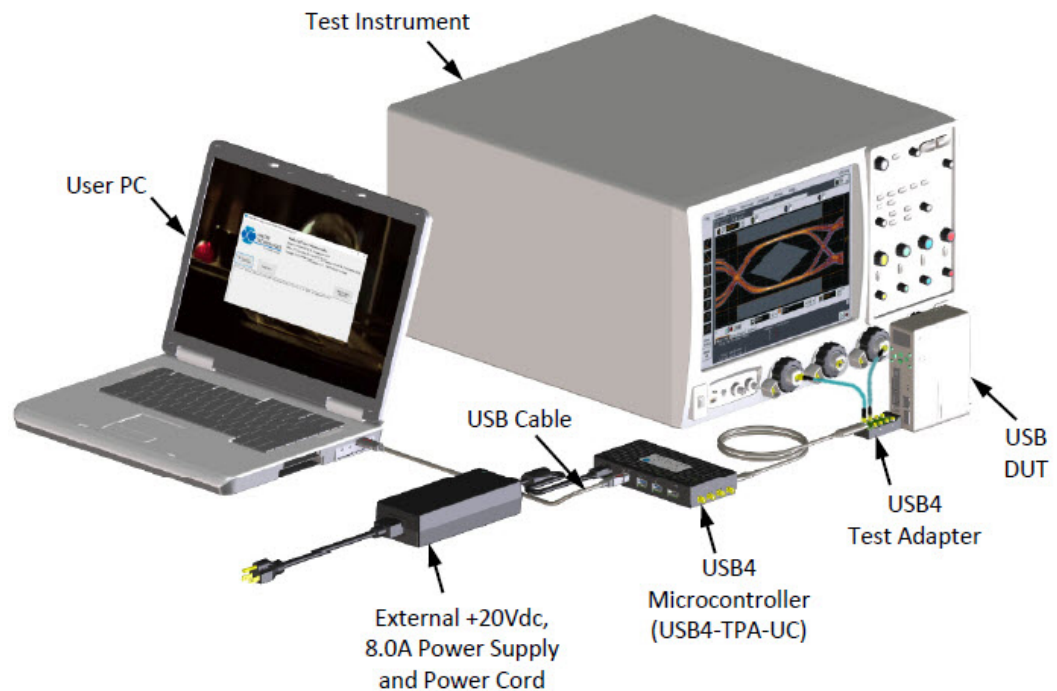

Figure 174 Transmitter TP2/TP3 Test Setup
- 1 For the physical connection between the DUT & the Oscilloscope, see Figure 174 and for configuring the USB4 Test Application, see "Setting up the USB4 Test Application" on page 48.
- 1 Connect the DUT to the Oscilloscope as shown in the Figure 174.